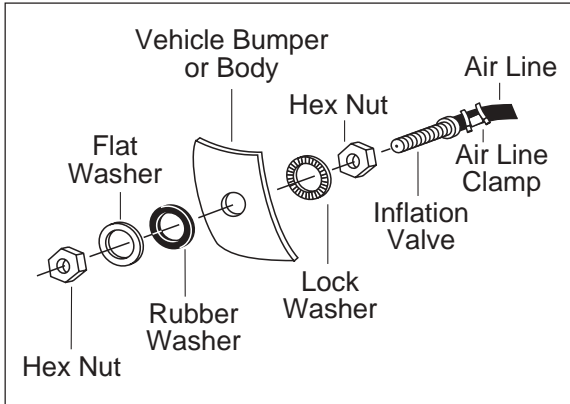

Figure 5
9. Drill $\frac{5}{16}$ " hole for inflation valve and mount as in illustration (Figure 5). Rubber washer is for outside weather seal.
7. Drill $\frac{5}{16}$ " hole for inflating valves and mount as illustrated. Rubber washer is for outside weather seal (Figure 5).